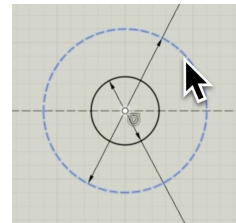

Figure 1.6
3. Add another construction circle equal to the dimple tool's outer diameter (OD) (see Figure 1.6).